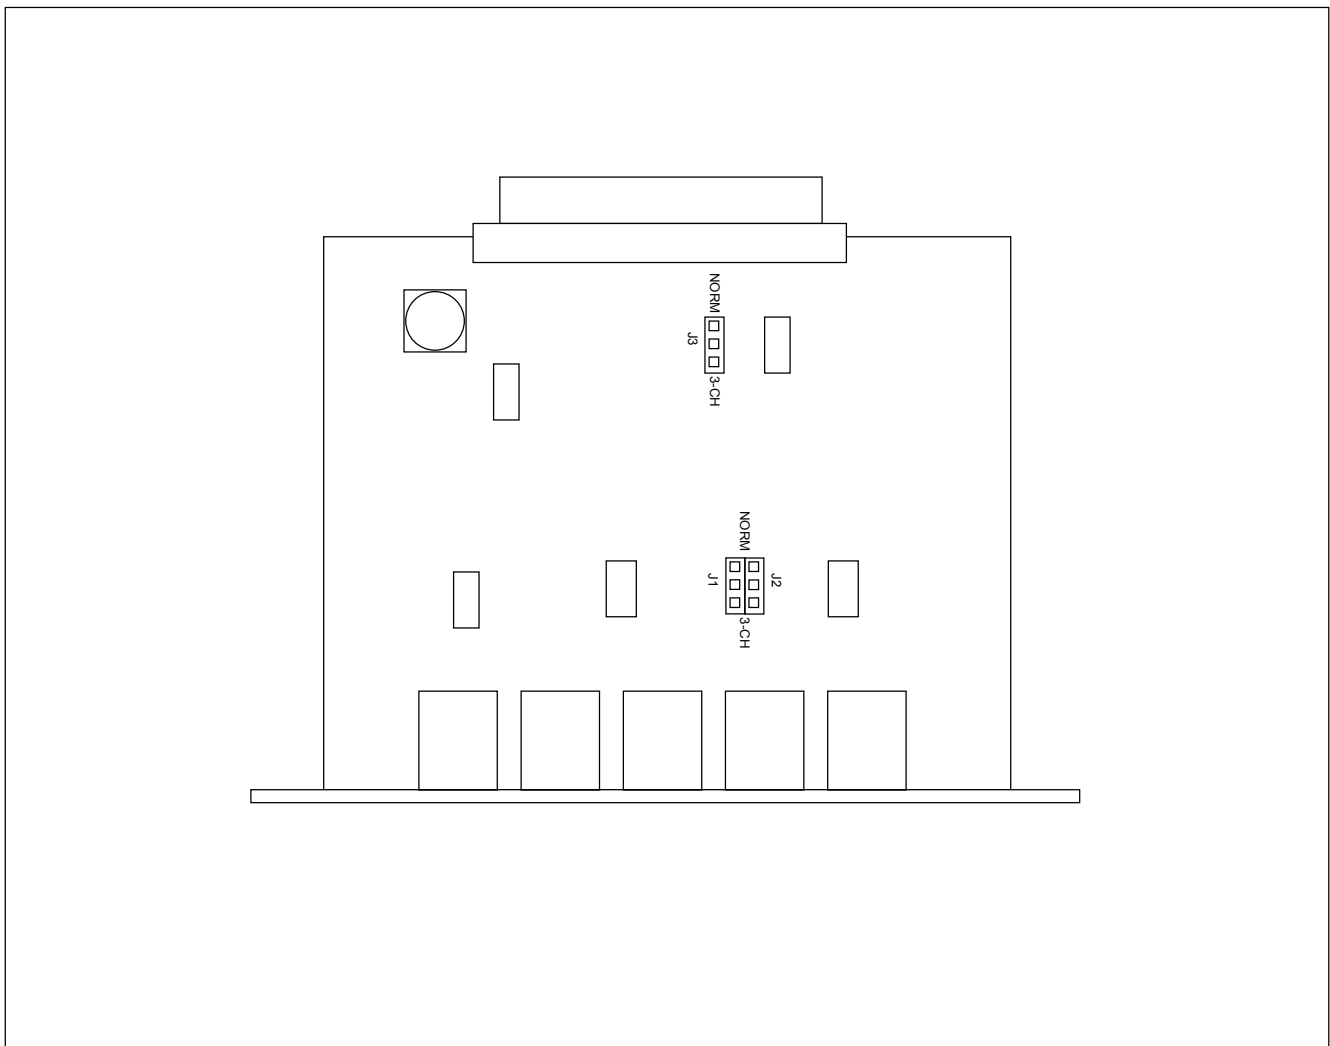
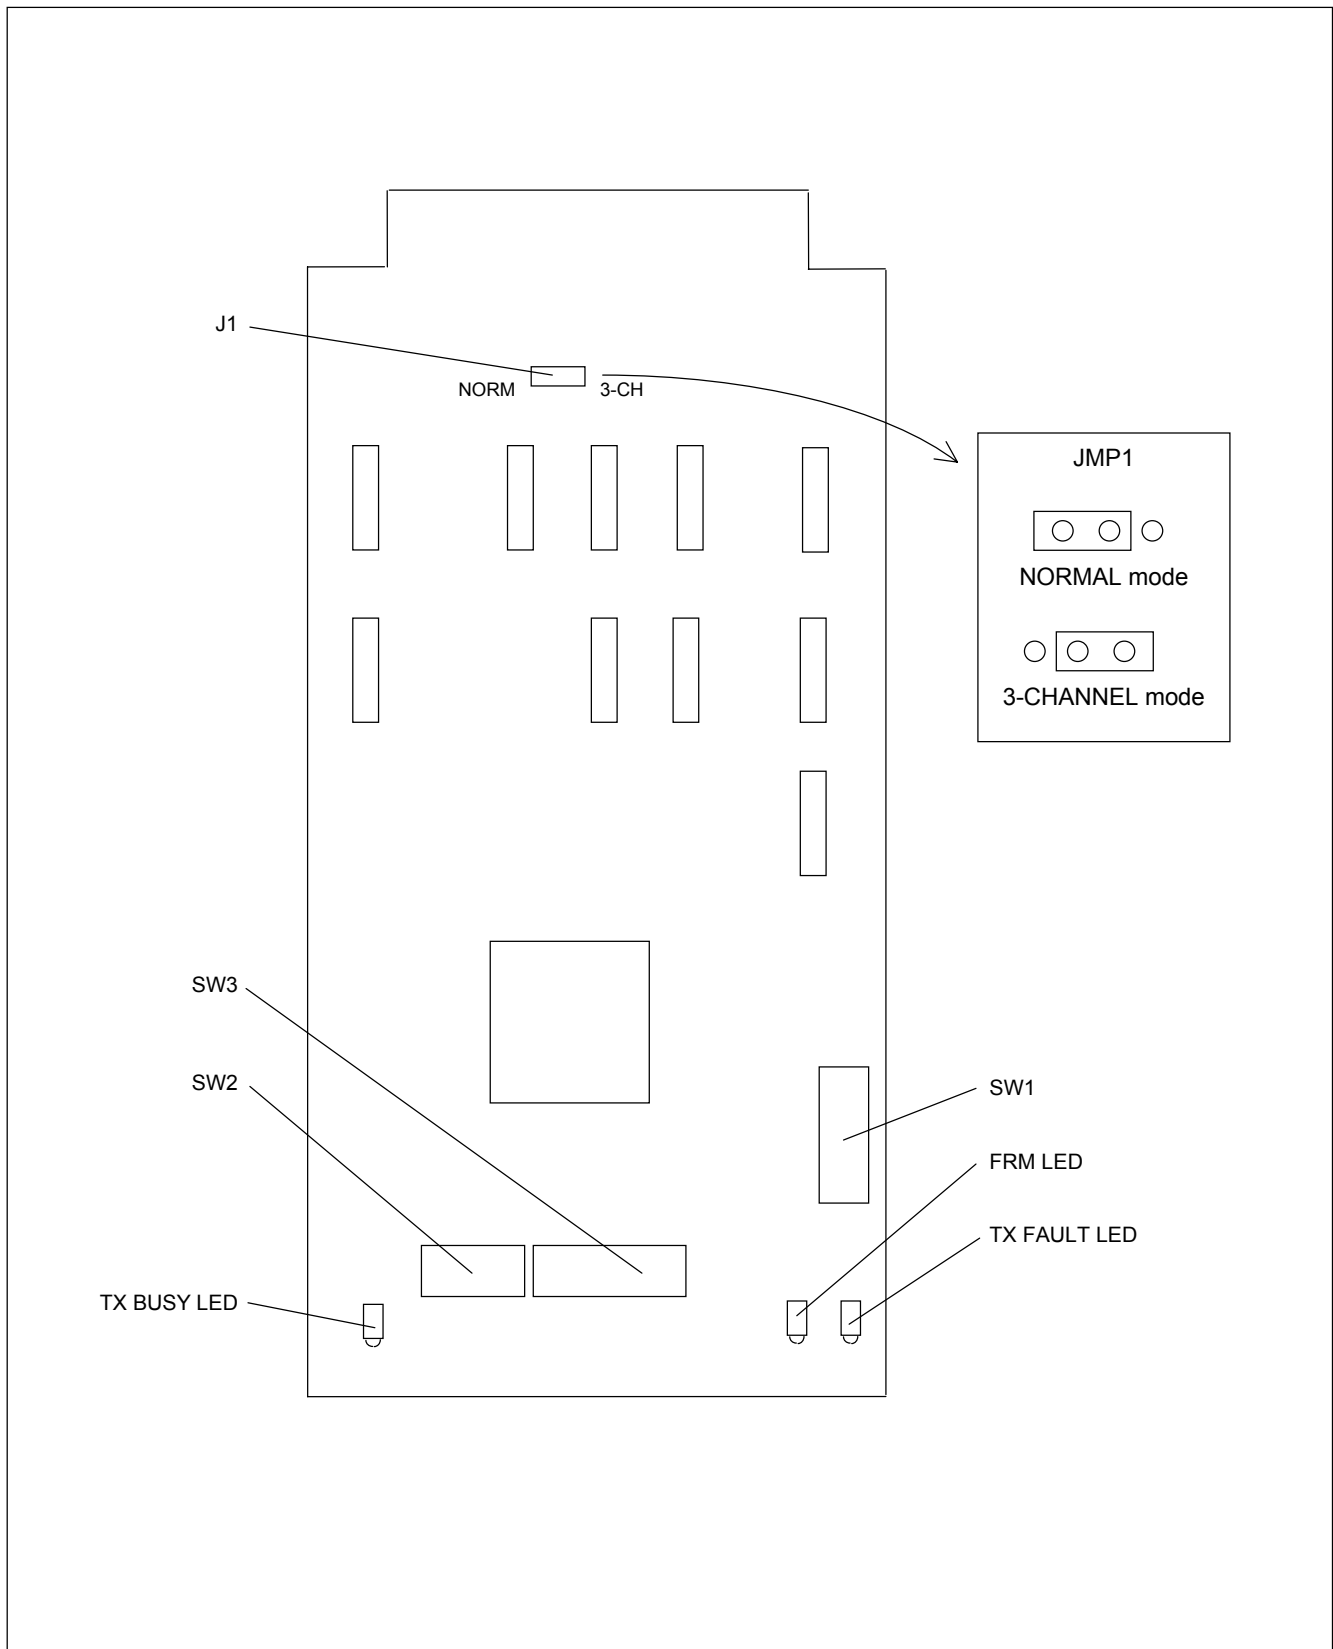

Figure 3. MA-404A Module Adapter jumper settings
Figure 4. Controls and indicators, RFL DS-961D Synchronous Data Module
Jumpers on the MA-404A are used to select normal or three channel mode of operation. For NORMAL mode (two or five channel), set jumpers J1, J2 and J3 to the NORMAL position. For THREE CHANNEL mode, set jumpers J1, J2 and J3 to the THREE-CHANNEL position. Figure 3 illustrates these jumper settings.
5. Refer to Figure 4 and Table 2 for the location and function of DIP switches on the DS-961D.
7. Set the channel configuration jumpers. To use this module in five channel mode at any data rate, or in two channel mode at 19.2 kbps, set jumper J1 to the NORMAL position as shown in Table 1 and Figure 4. Set the jumpers on the module adapter to the NORMAL position as shown in Figure 3.
- Set the jumpers on the module adapter to the THREE CHANNEL position as shown in Table 1 and Figure 3.